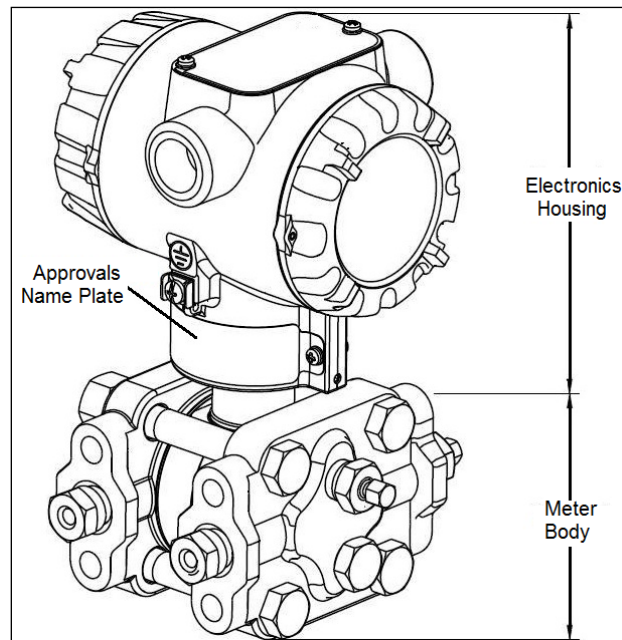
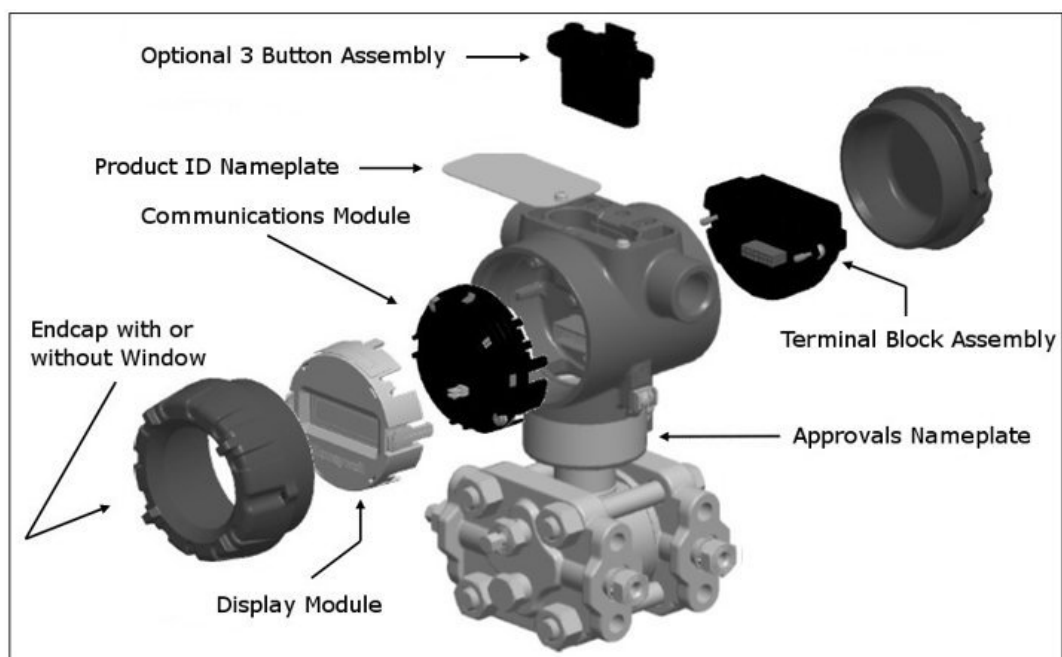
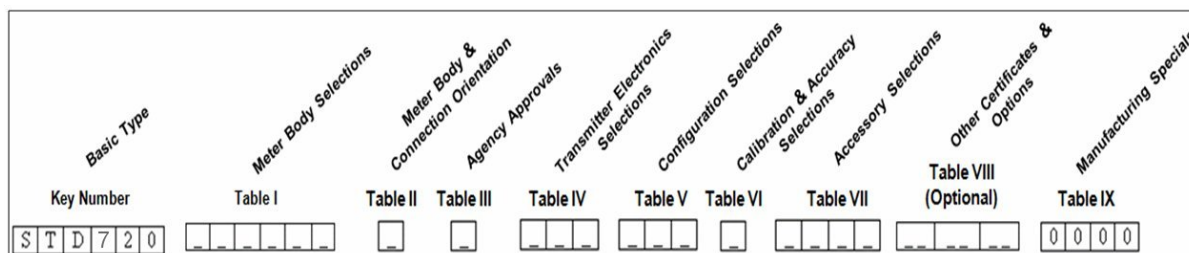

Figure 1 – ST 700 Standard Major Assemblies
Figure 2 – Electronics Housing Components
Figure 3 –Typical Standard Transmitter Name Plate Information
1. Look at the nameplate on top of the unit shown in Figure 3. Refer to the Model numbers in the table below to identify which type of Transmitter you have; Standard or Basic.
As shown in Figure 1, the ST 700 is packaged in two major assemblies: the Electronics Housing and the Meter Body. The elements in the Electronic Housing respond to setup commands and execute the software and protocol for the different pressure measurement types. Figure 2 shows the assemblies in the Electronics Housing with available options.
The Transmitter nameplate mounted on the top of the Electronics Housing (see Figure 2) lists the model number, physical configuration, electronics options, accessories, certifications, and manufacturing specialties. Figure 3 is an example of a typical Differential Pressure (DP) or Gauge Pressure (GP) or Absolute Pressure (AP) Transmitter name plate. The model number format consists of a Key Number with several table selections. The Differential Pressure (DP), Absolute Pressure (AP), and Gauge Pressure (GP) name plates are essentially the same. However, the DP provides one additional entry (7 vs. 6 characters) in the Meter Body Selections (Table I) to accommodate the static pressure rating.
An “approvals” name plate is located on the bottom of the Electronics Assembly; see Figure 1 for the exact location. The approvals name plate contains information and service marks that disclose the Transmitter compliance information. Refer to Appendix A of the *ST 700 SmartLine Transmitters User's Manual*, Document # 34-ST-25-44 for details.
Zero and Span adjustments are possible in new generation ST 700 Standard SmartLine Pressure Transmitter by using the optional three-button assembly located at the top of the Electronic Housing (see Figure 2). However, certain capabilities are limited in the following configurations: